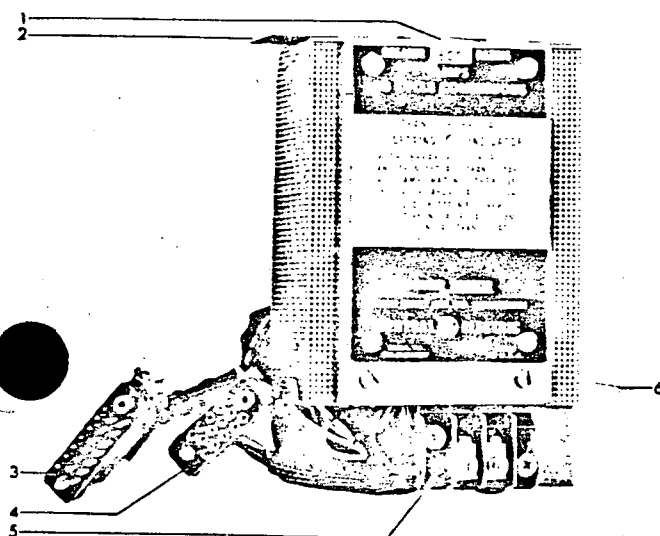

Figure 15. (80398 i0) Power Supply
POWER SUPPLY (Figure 15).
2. The Power Supply which provides both the tripping energy and the comparison basis for overcurrent detection (Figure 15).